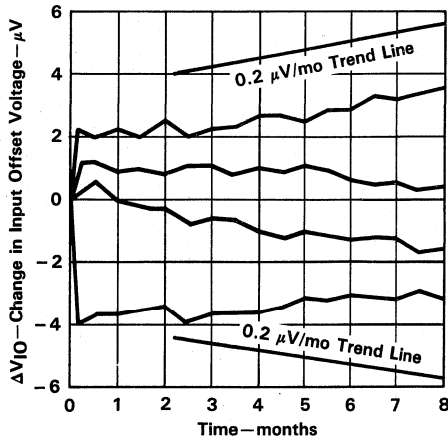

FIGURE 3
4. Long-term drift of input offset voltage refers to the average trend line of offset versus time over extended periods after the first 30 days of operation. Excluding the initial hour of operation, changes in V_{IO} during the first 30 days are typically 2.5 μV . See Figure 3.